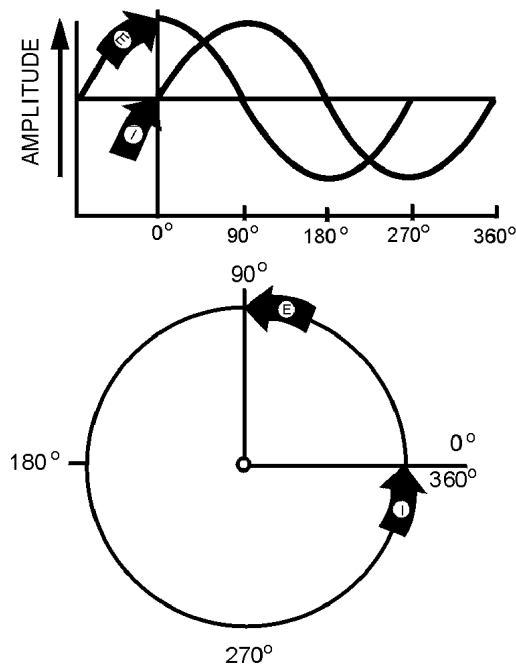

Figure 4-2.—Comparison of sine wave and circle in an inductive circuit.
As you know the sine wave can be compared to a circle. Just as you mark off a circle into 360 degrees, you can mark off the time of one cycle of a sine wave into 360 electrical degrees. This relationship is shown in figure 4-2. By referring to this figure you can see why the current is said to lag the voltage, in a purely inductive circuit, by 90 degrees. Furthermore, by referring to figures 4-2 and 4-1(A) you can see why the current and voltage are said to be in phase in a purely resistive circuit. In a circuit having both resistance and inductance then, as you would expect, the current lags the voltage by an amount somewhere between 0 and 90 degrees.